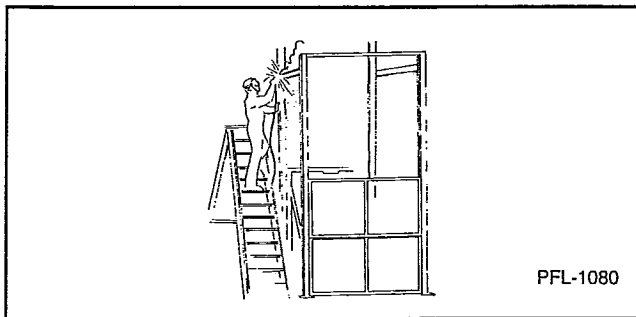

Figure 15
- 11. If everything runs smoothly, brace the posts and anchor the base plates securely to the floor. See Figure 15.